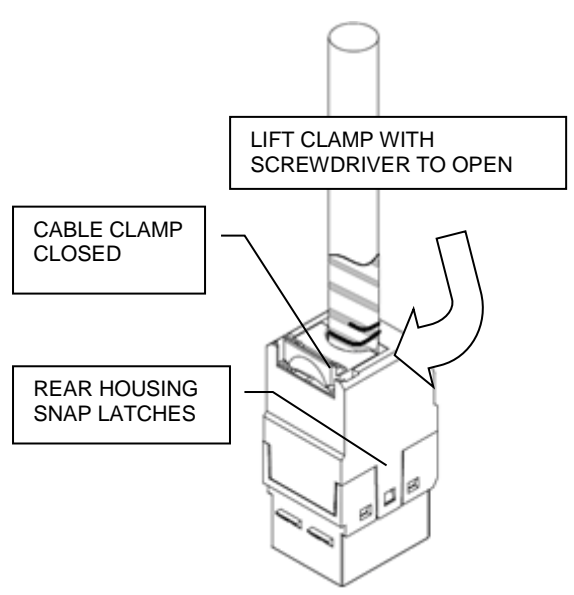

Fig. 7
1. Lift cable clamp with screwdriver (see Fig. 7).
2. Lift rear housing snap latches with screwdriver (see Fig. 7).